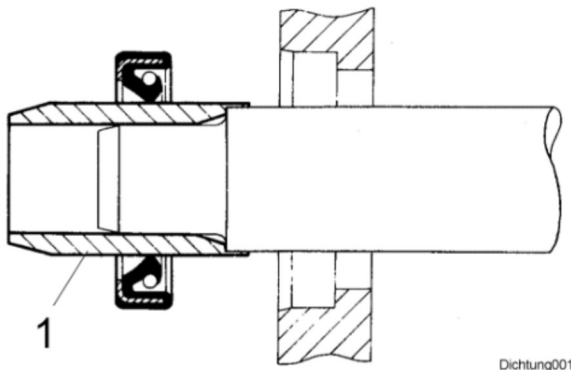

Fig. 2
- Lubricate sealing lips 1 (Fig. 2) with clean grease; in case of double seals fill the space between the sealing lips with a generous amount of grease.
If possible, use an assembly sleeve 1 (Fig. 2), to protect the lip from being damaged by sharp edges,